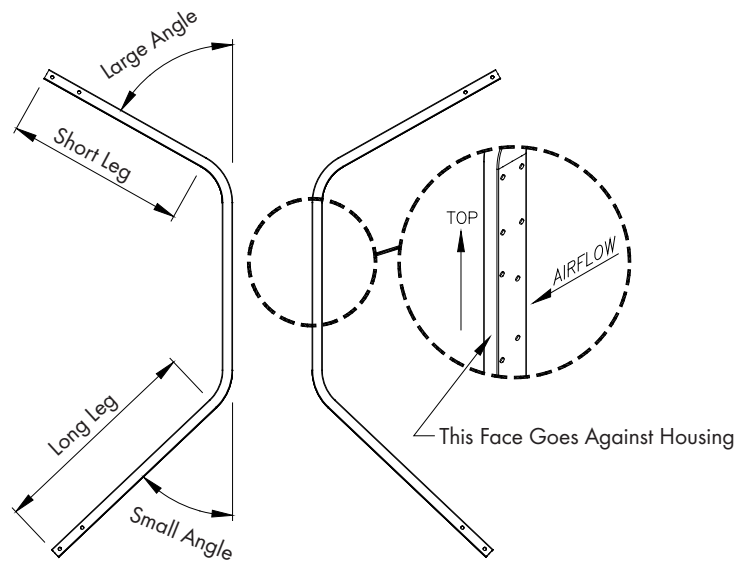
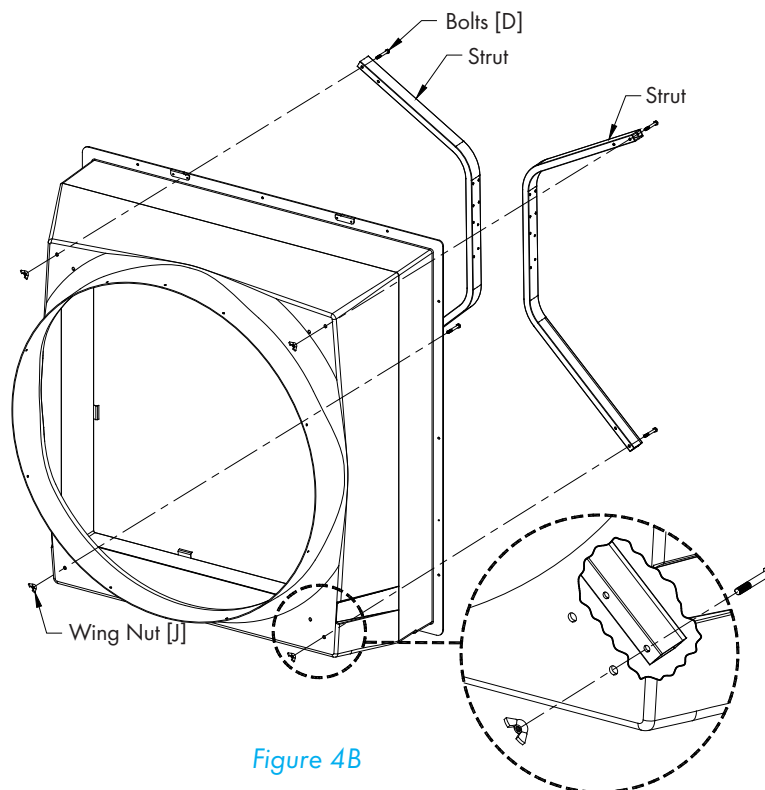

Figure 4A
Figure 4B
Identify the top and bottom legs of the New Tube Struts (supplied). The top leg of the strut is the shorter leg with the larger angle and the bottom leg is the longer leg with the smaller angle. See Figure 4A. Position the Tube Struts into the fan housing and align the outermost holes in each strut leg with the outermost holes in the housing and fasten in place using (4) Bolts [D] and Wing Nuts [J]. See Figure 4B.